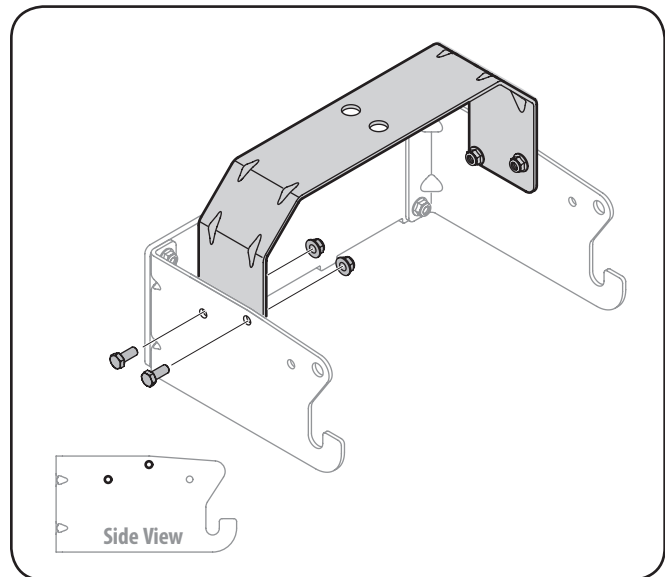

Figure 4-2
2. Flip over assembly and mount the hitch support bracket to the mounting assembly using the hardware from pack 689-00087. See Fig. 4-2.